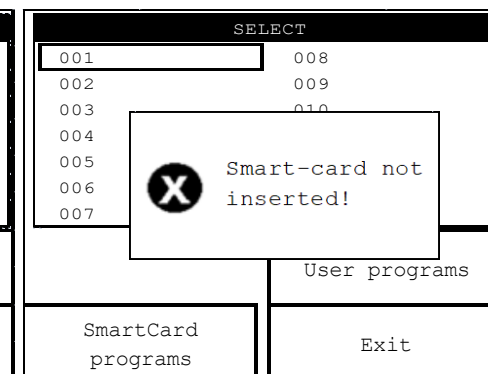

Fig.14
**NOTE: If you save a program on Smart-Card but the Smart-Card is not inserted, the operator is alerted by an alarm message (see fig.14) to the not inclusion of the Smart Card into place and then the inability to be able to continue in the operation of storage programs.**